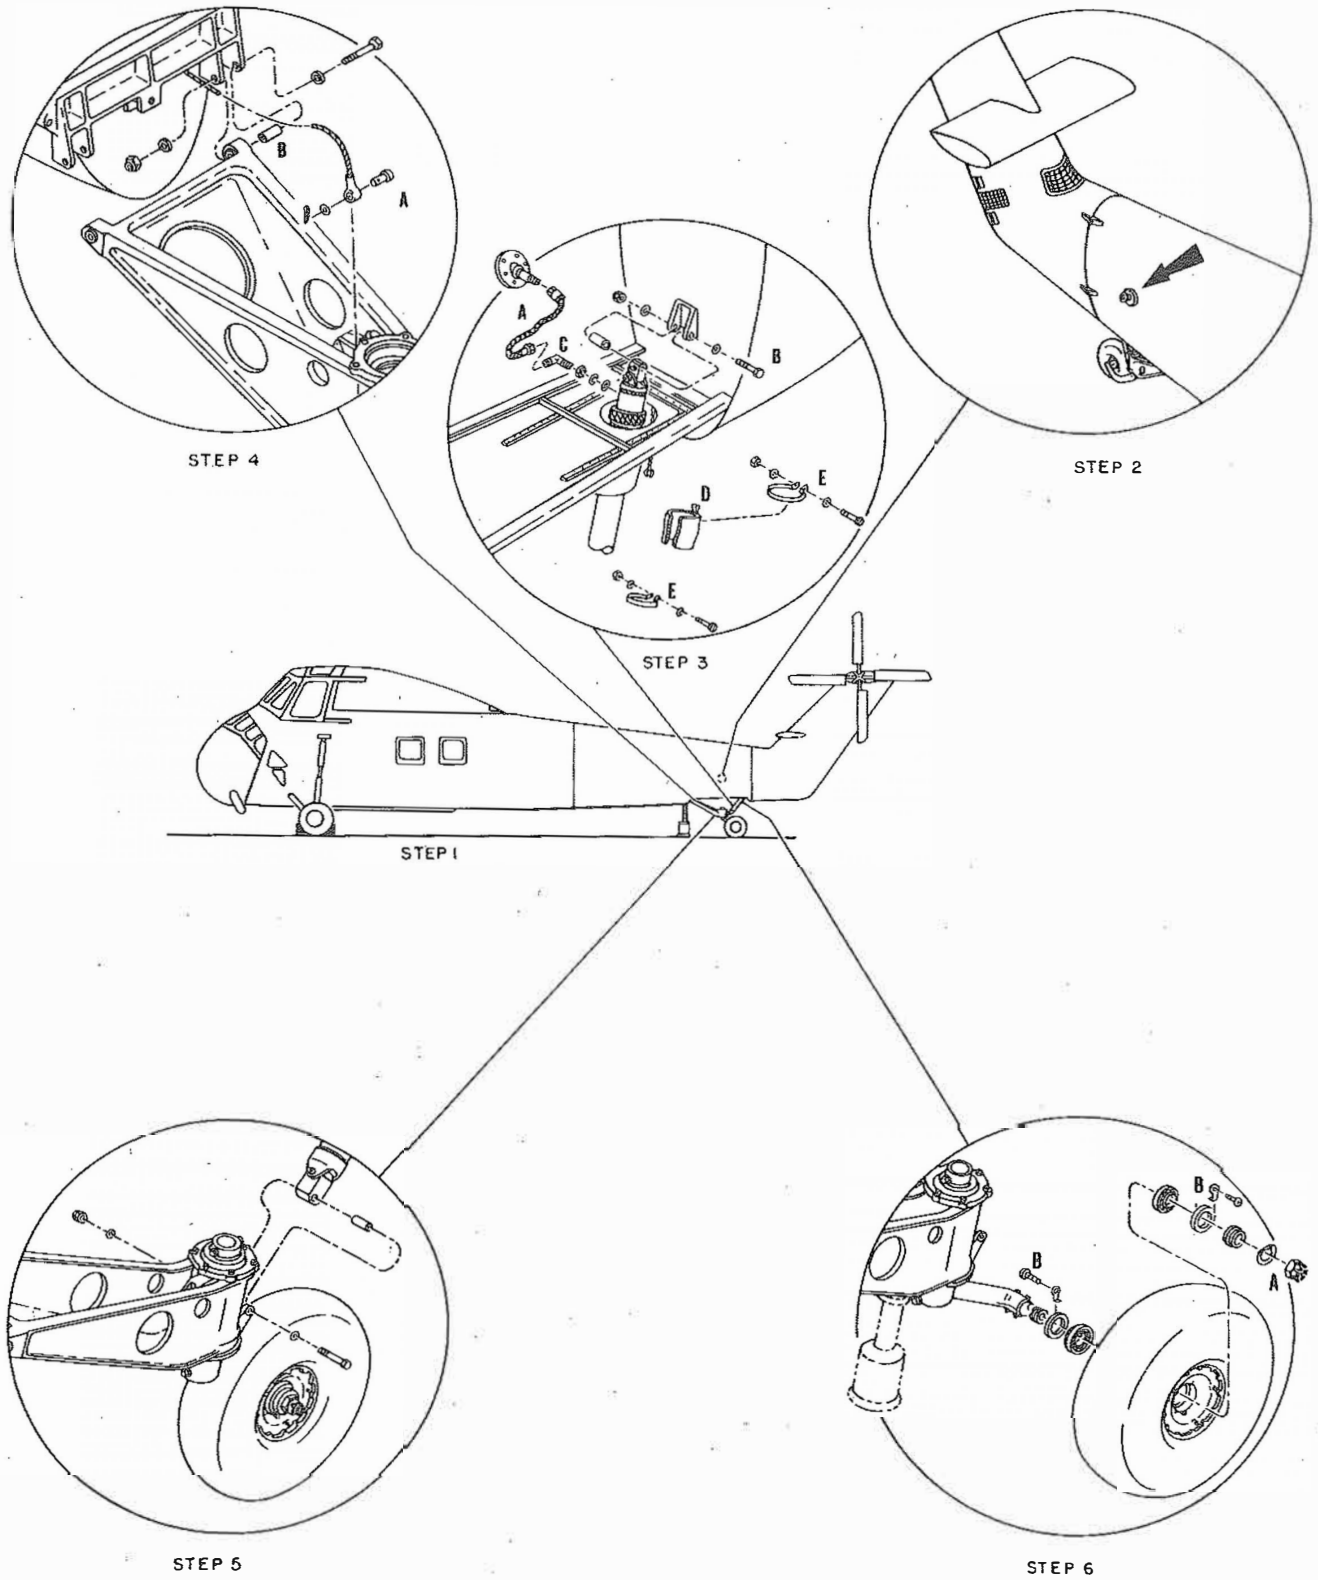

Figure 2-21. Tail Landing Gear Removal and Disassembly
## 2-263. REMOVAL. (See figure 2-21.)
- c. Disconnect the wheel lock control cable from the lockpin at "A" (step 4, figure 2-21).
## 2-265. INSTALLATION. (See figure 2-21.)
- e. Remove the jack (step 1, figure 2-21).
## 2-268. REMOVAL. (See figure 2-21.)
2-277. INSTALLATION. (See figure 2-21.)
2-280. REMOVAL. (See figure 2-21.)
a. Bend back the tang of the lock washer and remove the nut, lock washer and spacer at "A" (step 6, figure 2-21). Pull the wheel assembly off the axle.